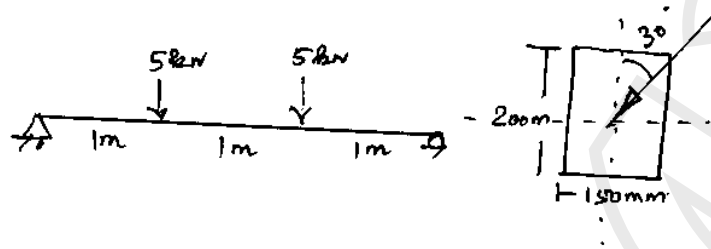

Fig. 6
- (b) A circular shaft has to take a bending moment of 9000 N.m and torque 6750 N.m. The stress at elastic limit of the material is $207 \times 10^6 \text{ N/m}^2$ both in tension and compression. $E = 207 \times 10^6 \text{ KPa}$ and $\mu = 0.25$. Determine the diameter of the shaft, using octahedral shear stress theory and the maximum shear stress theory. Factor of safety : 2. (16)
15. (a) A rectangular simply supported beam is shown in Fig. 6. The plane of loading makes 30° with the vertical plane of symmetry. Find the direction of neutral axis and the bending stress at A. (16)